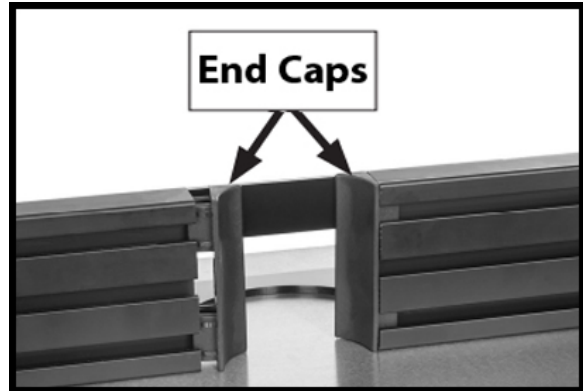
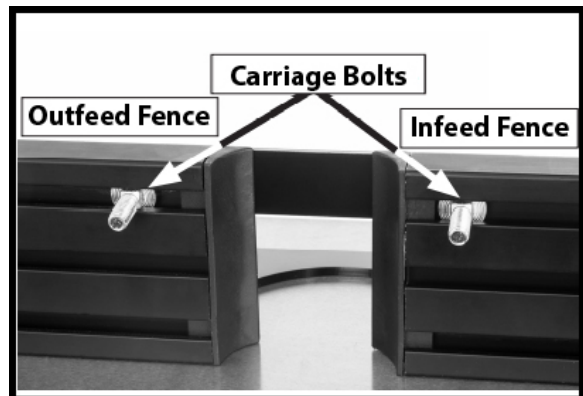

Figure 26
Figure 27
15. Slide (1) 1/4-20 x 3/4" into the top slot of both the infeed & outfeed fences (Fig.27) and press in the (4) fence end caps into the fences (Fig.26)